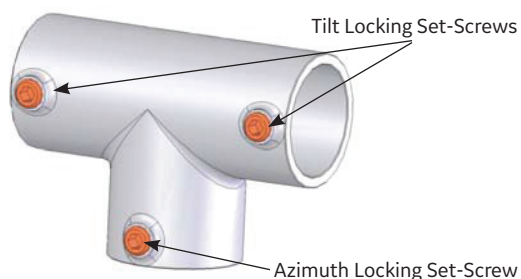

Figure 3
Mounting hardware to attach the solar panels to the pole has been pre-assembled to aid in field installation. Prior to placement of the 3-Outlet 2.0 inch diameter Pipe Tee, loosen the Azimuth (direction the solar panels face) Adjustment set screw. Reference Figure 3. Position the bottom inlet on top of the pole, making sure it is firmly centered and seated down. Make sure that there aren't any shadows that could contact any portion of the solar panel.
To adjust both the direction the Solar Panels face and the tilt positions on the Solar Panel Mounting, there are (3) 5/8 in.- Set Screws on the 3-outlet 2.0 in. diameter Pipe Tee component of the mounting assembly, which will require a 5/16 Allen Wrench. Reference Figures 3 and 4.